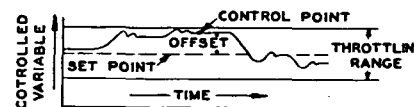

FIG. 4. PROPORTIONAL CONTROL SHOWING VARIATIONS IN CONTROLLED VARIABLE AS LOAD CHANGES
4. *Proportional action*, Fig. 4, is the type where the controlled device is positioned proportionately in response to slight changes in the controlled variable. It does not run through its complete stroke, as is the case with two-position control, nor does it continue to move until the change in the controlled variable resulting from that movement is felt by the controller, as is the case with floating control, but it immediately assumes a position in proportion to the system requirement.